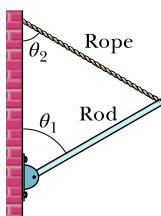

Figure 12.62
- 69 SSM** In Fig. 12.62, a uniform rod of mass  $m$  is hinged to a building at its lower end, while its upper end is held in place by a rope attached to the wall. If angle  $\theta_1 = 60^\circ$ , what value must angle  $\theta_2$  have so that the tension in the rope is equal to  $mg/2$ ?